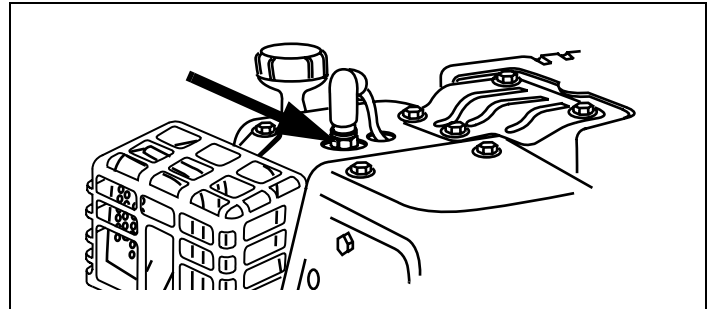

Figure 36. Typical Spark Connection
- Attach the spark plug wire to the grounding post, if provided. See Figure 36.
9. Carefully disconnect spark plug wire from grounding post, if provided. See Figure 36.